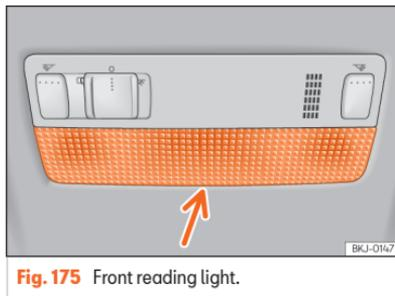

Fig. 175 Front reading light.
- Insert a fine screwdriver between the casing and the glass >>> Fig. 175.